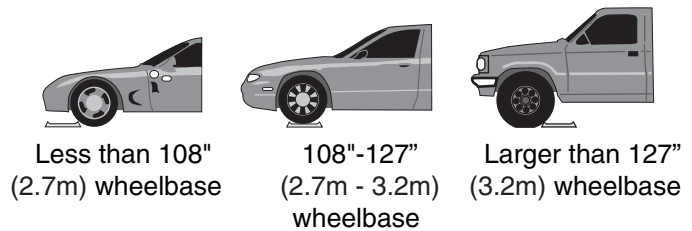

Fig. 3
2. Spot vehicle over lift with left front wheel in proper spotting position, Fig. 3.